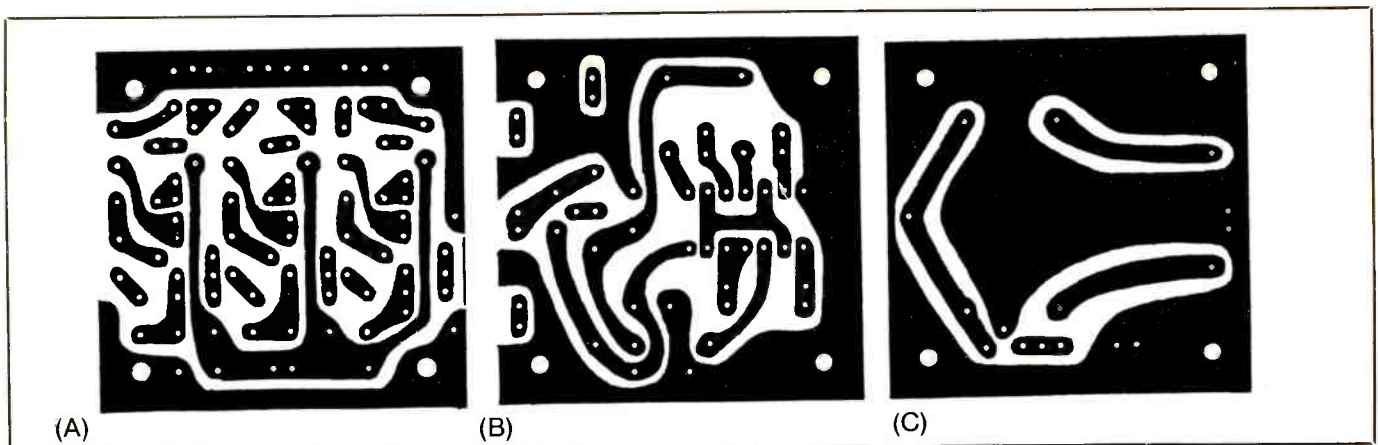

Fig. 3. Actual size etching-and-drilling guides for (A) RGBI, (B) gray-logic and (C) power-supply boards).
Printed-circuit boards are recommended for the RGB and gray-logic circuitry, although other construction methods can be used. In Fig. 3 are shown the actual-size etching-and-drilling guides for the pc boards so that you can fabricate them yourself. When the boards are ready to be populated, refer to the wiring
Begin construction by wiring the RGB board, using guide (A) in Fig. 3. Start with installation of the resistors, capacitor and diodes, taking care to properly orient the latter before soldering their leads into place. Note that the resistors and diodes mount on-end to conserve board space. Next, install the three transistors, taking care to properly base them before soldering their leads into place. Finally, install and solder into place the six pc-mount trimmer controls and set them for about mid-rotation. Temporarily set aside this assembly.
Wire the gray-logic board next, referring to guide (B) in Fig. 3. Begin wiring it by installing and soldering into place the socket for *IC1*. Do not plug the IC into the socket until you've conducted preliminary voltage checks and are certain that your wiring is correct. Next, install the resistors, capacitor and diodes (watch polarity with the last), followed by the transistor (watch basing). Temporarily set aside this assembly as well.
Now wire the power-supply board, referring to guide (C) in Fig. 3. Make sure that all components on this board are properly polarized and based before soldering their leads into place.
Referring back to Fig. 3, note that single-numbered holes are wiring references. When you wire together the circuit elements, match the numbers—1 to 1, 2 to 2, etc. Also match +5V and GND.